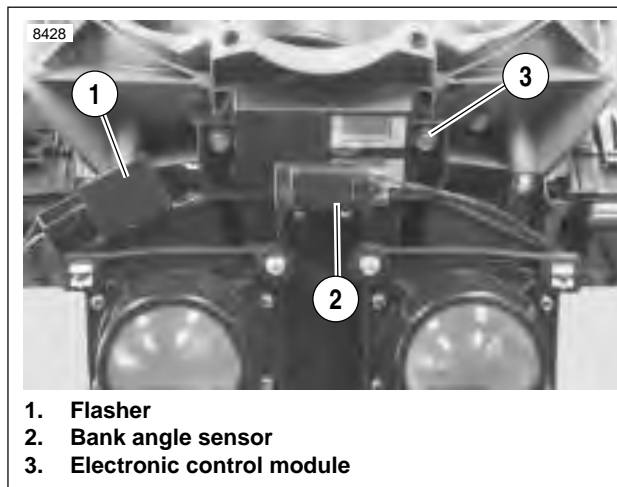

Figure 2-102. Headlight Support Bracket
4. See Figure 2-102. Disconnect flasher (1) and bank angle sensor (2). Remove electronic control module fasteners (3).
1. See Figure 2-102. Remove bank angle sensor (2).
2. Connect headlight bulb (8) connector (white) into wire-harness.
4. Install black rubber cover (4).
5. See Figure 2-102. Install bank angle sensor connector case (2). Tighten to 12-36 **in-lbs** (1-4 Nm).
6. Install flasher (1) and tighten to 30-40 **in-lbs** (3-5 Nm).
7. See Figure 2-102. Install electric control module.
- b. Tighten electronic control module fasteners (3) to 72-96 **in-lbs** (8-11 Nm).
8. See Figure 2-102. Connect flasher (1) and bank angle sensor (2).